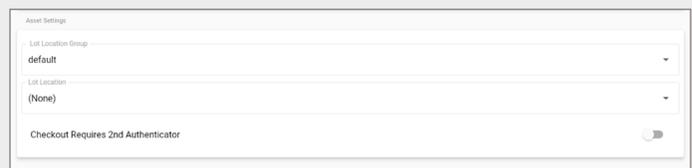

Fig. 64 – Edit Asset screen – Asset Settings
- Fill in the **Asset Settings**, as shown in Fig. 64.